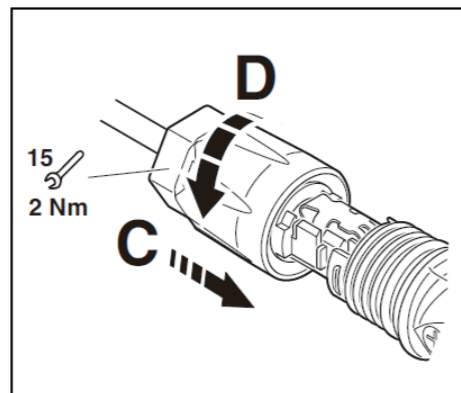

Figure 5-14
6. Push the insert into the sleeve (Figure 5-14, C).
7. Tighten the cable gland to 2 Nm (Figure 5-14, D). Use a suitable and calibrated torque wrench of size 15. Use an open-jaw wrench, size 16, to hold the connector in place.